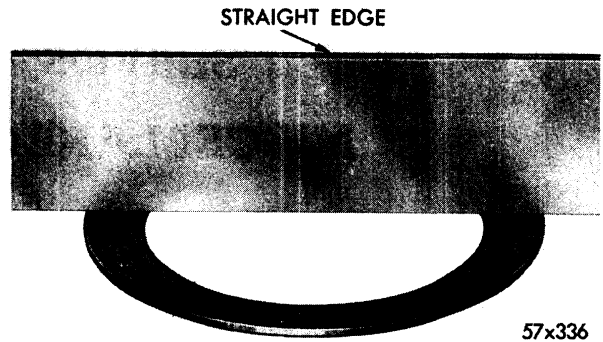

Fig. 89—Identification of Front Clutch Cushion Spring
Install the front clutch hub, (I), cushion spring retaining plate (E), and cushion spring (D) (concave side, as shown in Figure 89, toward retaining plate) (E). The front clutch cushion spring must be preloaded to 500 pounds for assembly. Place front clutch and the input shaft assembly in an arbor press with the rear of the piston retainer resting on a suitable support. Press the input shaft into the clutch retainer until snap ring (B) can be installed. **If arbor press is not available use two "C" clamps placed 180° apart as described previously.**